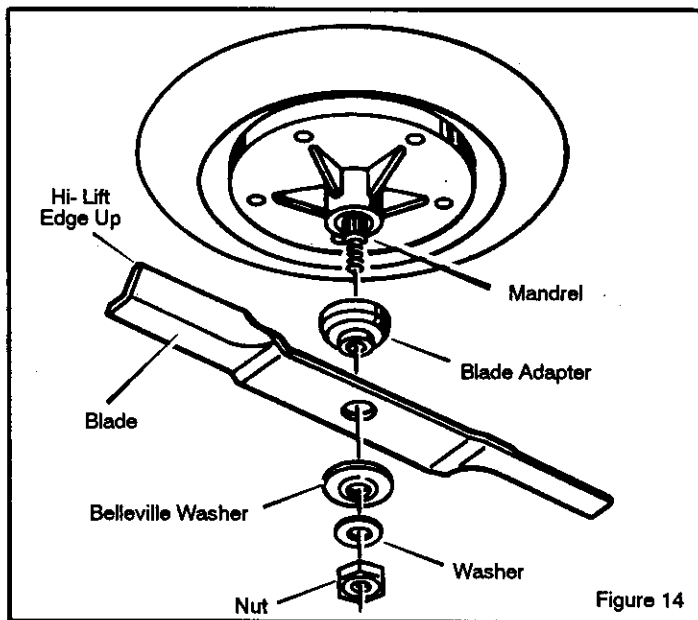

Figure 14
3. Remove the nut that holds the blade (Figure 14).
6. Mount the blade and blade adapter on the mandrel (Figure 14).